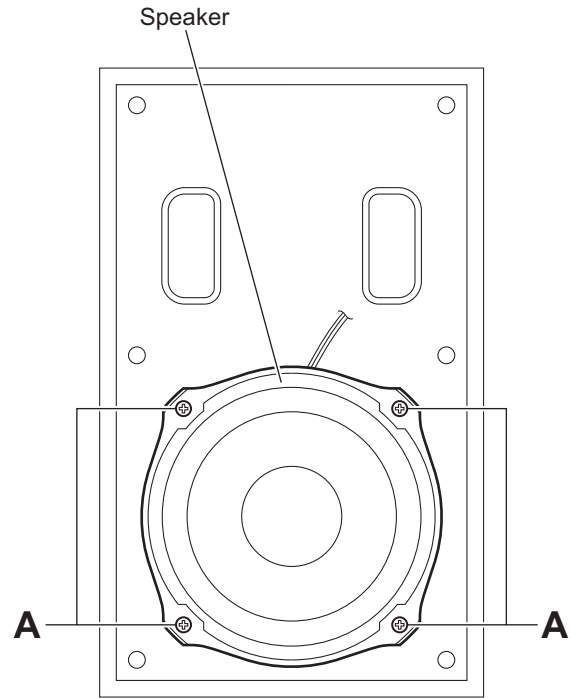

Fig.5
3.4.3 Removing the speaker (See Figs.5 and 6)
- From the front side of the speaker main body, remove the four screws **A** attaching the speaker. (See Fig.5.)